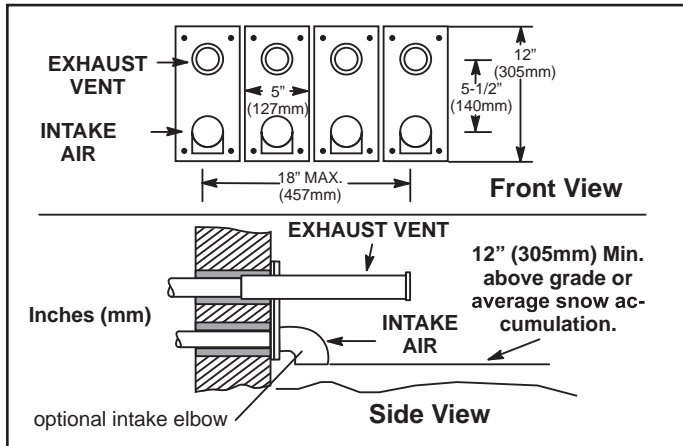

Figure 28. Optional Vent Termination for Multiple Unit Installation of Direct Vent Wall Termination
- A multiple furnace installation may use a group of up to four terminations assembled together horizontally, as shown in Figure 28.